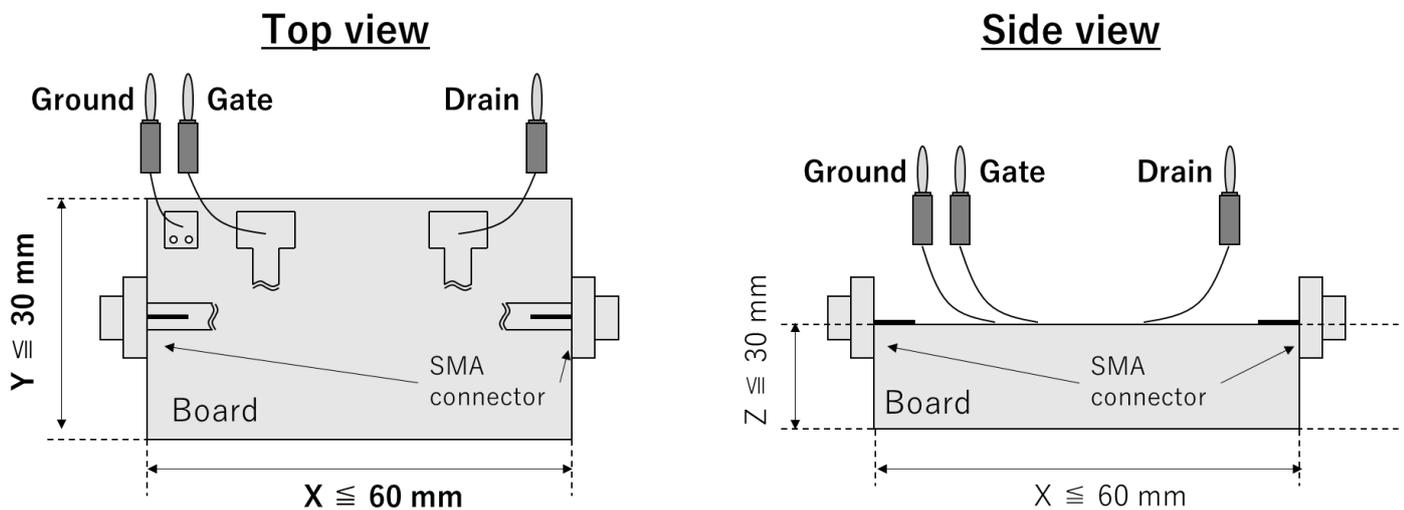

Figure 2. Evaluation value of Board size.
- Board size: The amplifier should be fabricated on the board smaller than 60 mm x 30 mm x 30 mm. Protrusions such as connectors are excluded. (See figure 2)
“Size” is evaluated the following the board area:  $X (\leq 60 \text{ mm}) \times Y (\leq 30 \text{ mm}) \text{ mm}^2$ . The smaller this evaluation value, the better. Refer to figure 2 for the evaluation value.